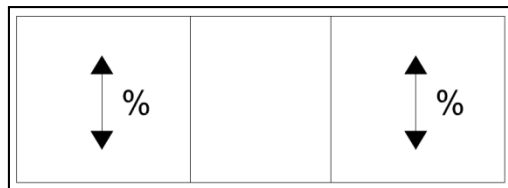

Figure 7A - Parallel Curb Ramp Cross Slopes
- Curb ramp and blended transition cross slopes do not exceed 2% (see **Figures 7A** and **7B**)